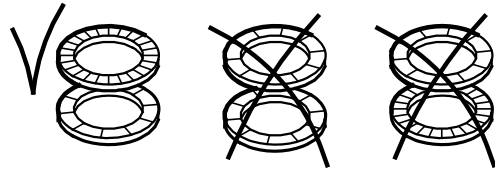

Fig. 14 Correct fitting of washers
11. Fit impeller (pos. 49), clamp (pos. 64c), washers (pos. 66) and nut (pos. 67). See fig. 14.